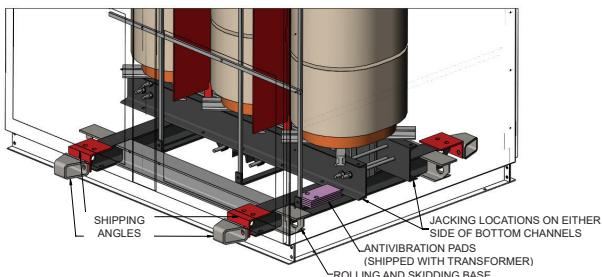

FIGURE 9
1. Do not lift or move a transformer without proper equipment and experienced personnel. Lifting provisions are provided inside of the enclosure on the core/coil only. Always use lifting provisions provided by the manufacturer. DO NOT LIFT THE TRANSFORMER BY THE ENCLOSURE. Rolling and skidding are recommended on transformers with a pre-ordered skidding base (see figure 9).
- (1) It is recommended that anti-vibration pads or other vibration isolation devices be present when installing dry-type transformer. Some dry-type transformers may have pre-installed anti-vibration pads or other vibration isolation devices. Most of the time the anti-vibration pads are provided with the dry-type transformers and need to be installed on site. When installing the anti-vibration pads beneath transformer base beam, ensure that lifting the transformer by core & coil only. If the enclosure is provided and attached to the core & coil by shipping angles, make sure that the shipping hooks and shipping angles are removed in all locations (see figure 9 and 10) and then lift the transformer by core & coil only to install the anti-vibration pads (or other vibration isolations